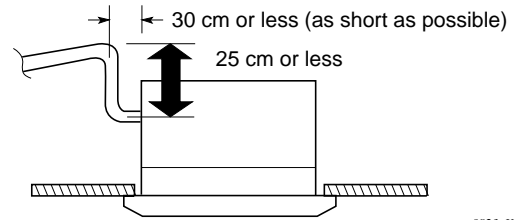

Fig. 3-29
- If it is necessary to increase the height of the drain pipe somewhat, the portion directly after the connection port can be raised a maximum of 25 cm. Do not raise it any higher than 25 cm, as this could result in water leaks. (Fig. 3-29)